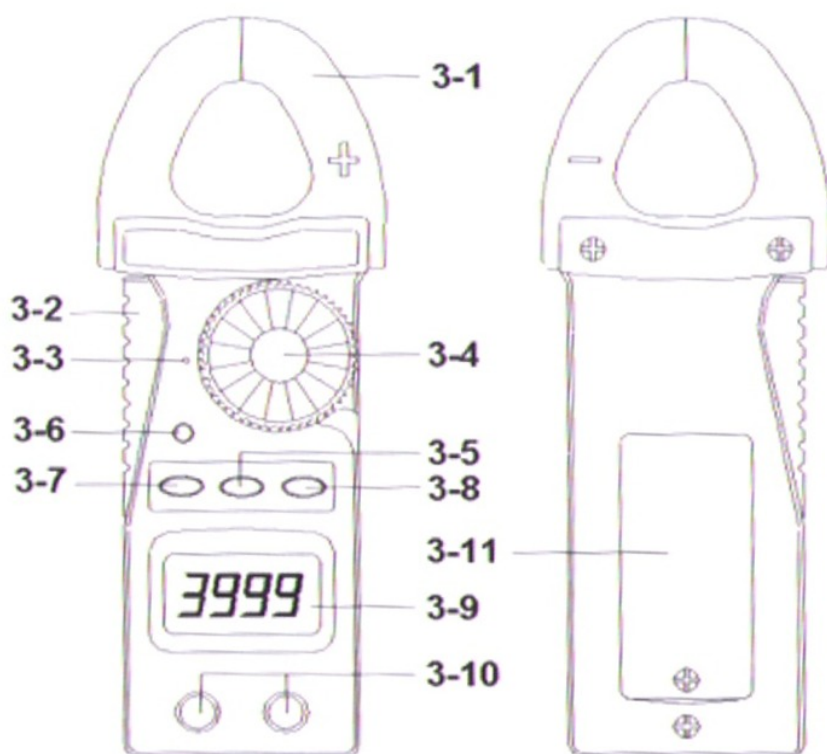

Fig. 1
- 3) If measure " DCV ", select the " Function rotary switch " (3-4, Fig. 1) to the " V " position then push the " FUNC. button " (3-7, Fig. 1) for display show "  ".
- 4) If measure " ACV ", select the " Function rotary switch " (3-4, Fig. 1) to the " V " position then push the " FUNC. button " (3-7, Fig. 1) for display show "  ".
- 6) Under the operation of " auto range " mode, push the " Range button " (3-5 Fig. 1) will hold the range.
- 3) Select the " Function rotary switch " (3-4, Fig. 1) to the " Ω " position then push the " FUNC. button " (3-7, Fig. 1) for display show " Ω ".
- 5) Under the operation of " auto range " mode, push the " Range button " (3-5 Fig. 1) will hold the range.
- 3) Select the " Function rotary switch " (3-4, Fig. 1) to the
- "  " position then push the " FUNC. button " (3-7, Fig. 1) for display show "  ".
- 3) Select the " Function rotary switch " (3-4, Fig. 1) to the "  " position then push the " FUNC. button " (3-7, Fig. 1) for display show "  ".
- 1) Select the " Function rotary switch " (3-4, Fig. 1) to the " 600A " position then push the " FUNC. button " (3-7, Fig. 1) for display show "  ".
- 2) Press the " Trigger " (3-2, fig. 1) to open the " Current Sensor Jaws " (3-1, Fig. 1) & clamp on the measure conductor only.
- 4) Under the operation of " auto range " mode, push the " Range button " (3-5 Fig. 1) will hold the range.
- 4) Under the operation of " auto range " mode, push the " Range button " (3-5, Fig. 1) will hold the range.
- * **Push the " REL. button " (3-8, Fig. 1), the " AUTO " indicator will disappear instead of the " REL. " mark. In the same time, display will change to zero value.**
- * **After push the " REL. button ", the meter will under the manual mode (not auto range). If intend change the DCA range (400A to 600A, or 600A to 400A), then should push the " Range button " (3-5, Fig. 1).**
- 3) Select the " Function rotary switch " (3-4, Fig. 1) to the " Hz " position, LCD will show the mark of " Hz " .
- 1) During the measurement of ACV, ACA, DCV, DCA & ohm, the circuit will memorize the last measured values if push the " REL. button " (3-8, Fig. 1) at once, then LCD will show zero value & a " REL. " indicator.